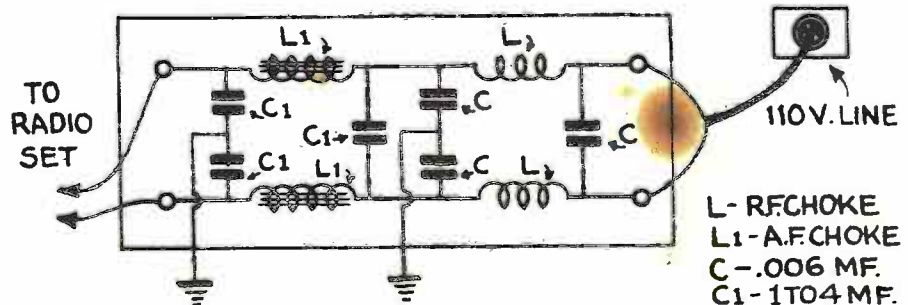

Fig. 94 - To completely filter line noises both audio and radio-frequency filters should be used.
(6) Eliminating Man-Made Static. Various methods have been devised to eliminate man-made static; all use some form of filter system. For example, we can connect radio-frequency chokes in the line circuit supplying our set. As the name implies, these will choke out the radio-frequency currents existing in the line in the form of "wired-wireless." Then we can connect radio-condensers across the line or between each side of the line and ground, to absorb radio-frequency currents. In addition, we must connect large iron-core chokes and large condensers in a similar fashion to the line to filter out all audio- or low-frequency impulses or surges. A complete filter of this type is illustrated in Fig. 94. Fig. 95 shows various types of filters. If the origin of the noise is definitely located, a filter should be connected there also, as indicated by the various illustrations of Fig. 97. This will block all three routes over which interference travels. Just a single 1-mf. condenser will help a lot.